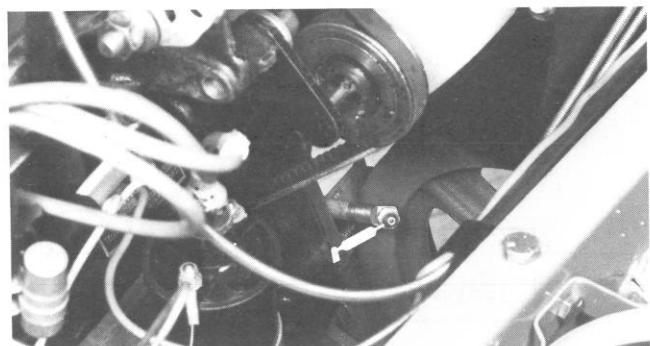

Figure 31
1. The traction unit bearings and bushings that must be lubricated are: PTO shaft and yokes (Fig. 24); lift arm pivots (Fig. 25); right and left push arm ball joints (Fig. 24); push arm pivot bushings (Fig. 26); steering gear (Fig. 27); PTO pivot housing blocks (Fig. 28); brake pivot bushings (Fig. 29); rear wheel spindle bushings (Fig. 30); steering plate bushings (Fig. 30); axle pin bushing (Fig. 30); and engine output shaft bearing (Fig. 31). Also apply grease to both brake cables at the drive wheel and brake pedal ends.